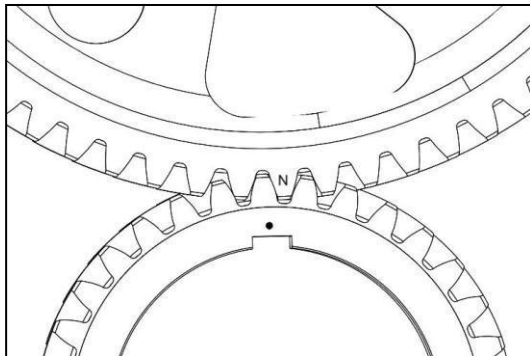

Figure 142
2. Install the camshaft gear (Figure 142, 5) and the connecting shaft (Figure 142, 4) of signal panel.